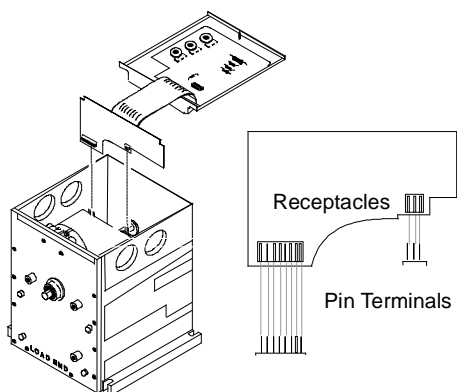

Figure 9: Installing Vertical Board
4. Install the vertical board with ribbon attached cover mounted board by carefully placing the terminal receptacles onto the two sets of pin terminals. (See Figure 9.)